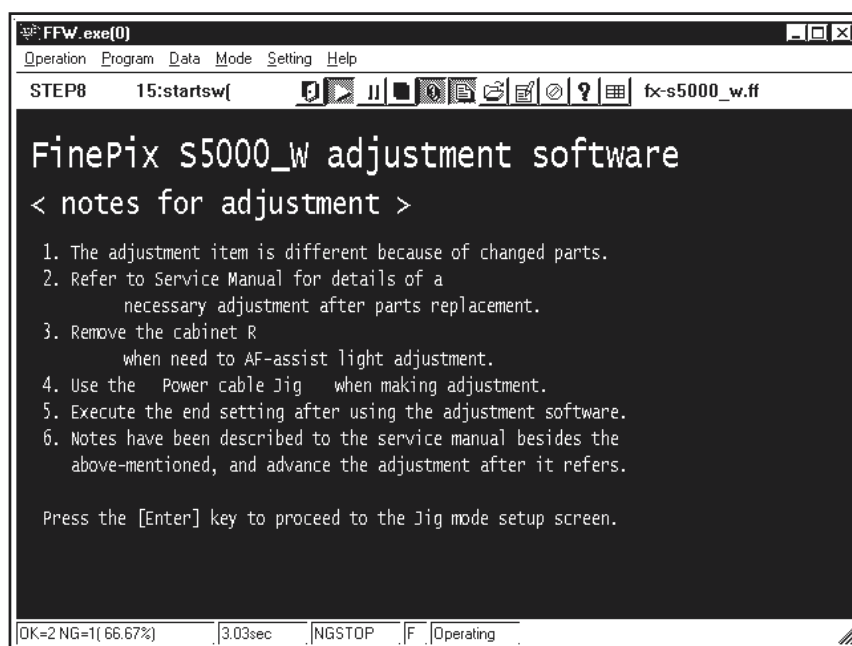

Fig.2
---> [Inithal Screen (Fig.2)] appears.